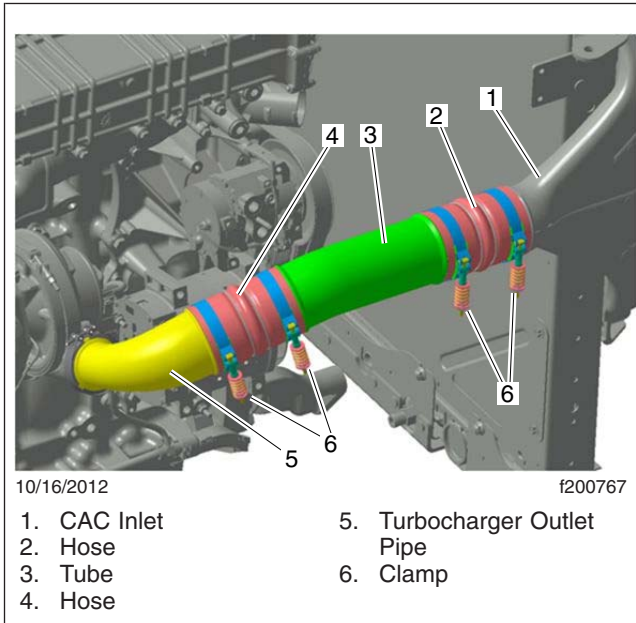
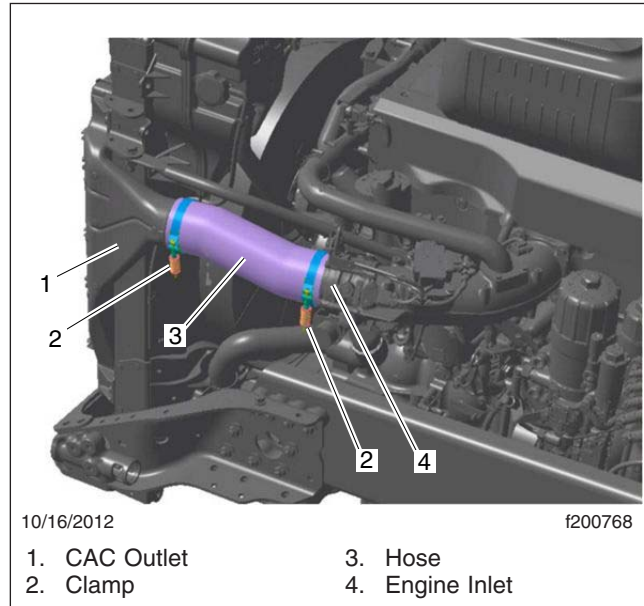

Fig. 2, CAC Plumbing, Turbocharger-to-CAC
Fig. 3, CAC Plumbing, CAC-to-Engine Inlet
5. Remove the charge air cooler (CAC) plumbing at the turbocharger outlet and the CAC inlet, and at the CAC outlet and the engine inlet. See Fig. 2 and Fig. 3.
40. Install the CAC plumbing at the turbocharger outlet and the CAC inlet and the CAC outlet and the engine inlet. See Fig. 2 and Fig. 3.